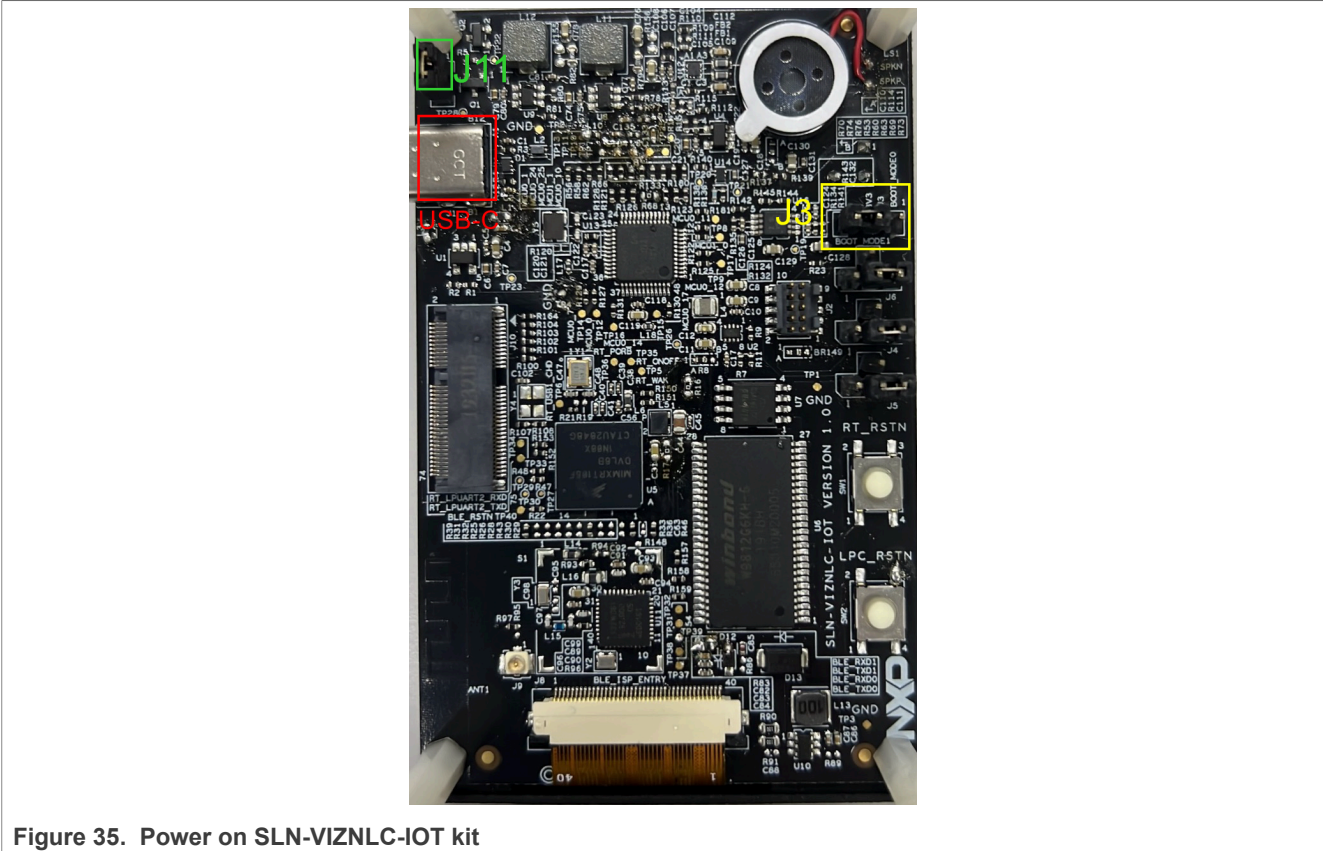

Figure 35. Power on SLN-VIZNLC-IOT kit
**Note:** LPC845 controls the power supply of RT106F and K32W061. Therefore, during the debug stage, we can bypass it by connecting J11 jumper as shown in the green highlighted box in Figure 35.